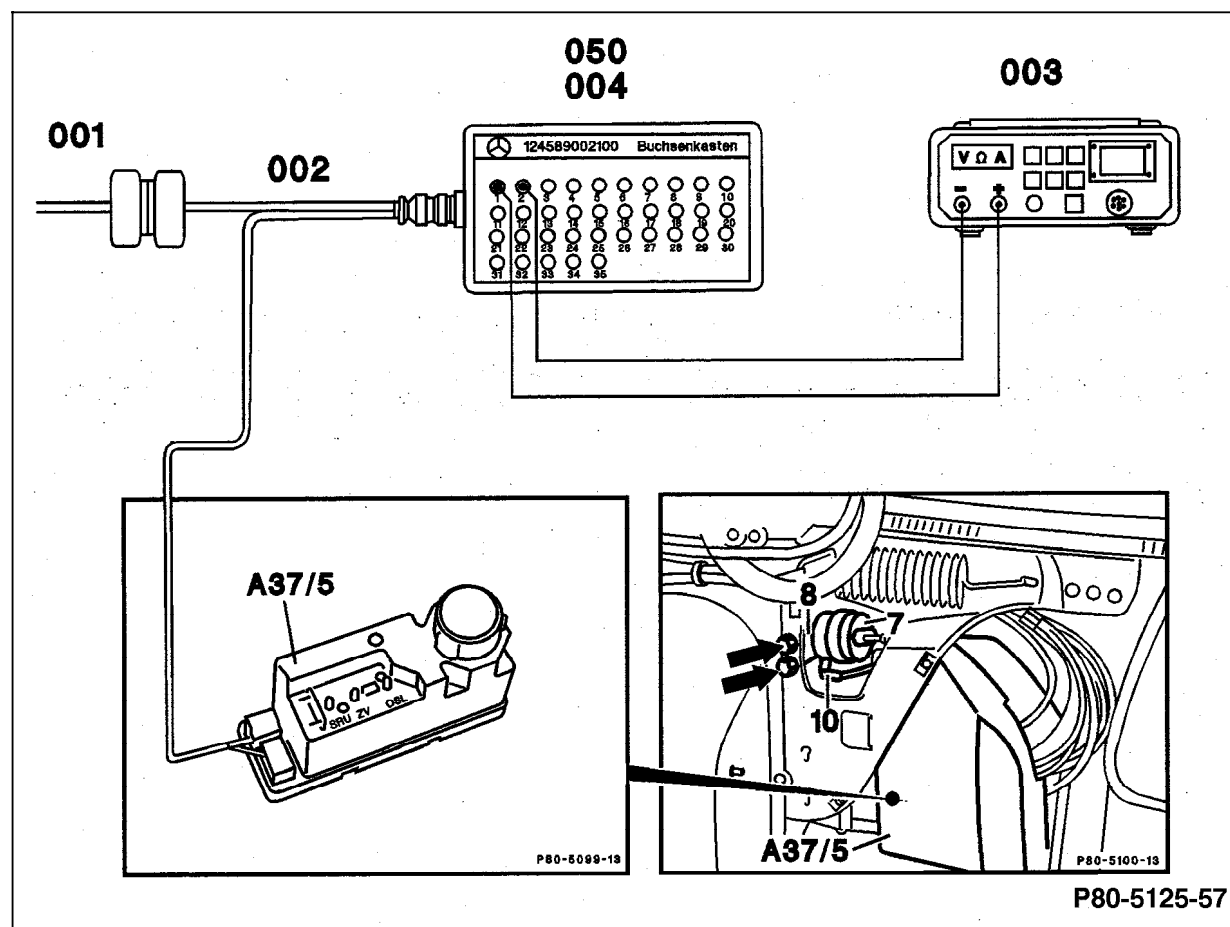

Figure 1
- 5. Connect socket box with test cable according to connection diagram, see 22, Figure 1.